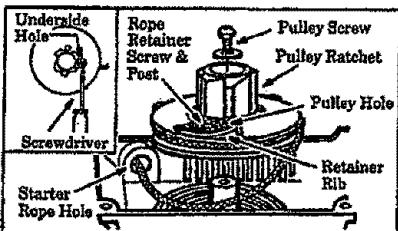

Figure 39
- Remove the pulley screw in the center of the pulley. Figure 39.
- Remove the Rope Retainer Screw and remove the old rope. Figure 39.
- Feed the rope through the round starter rope hole in the fan housing. Figure 39.
- Guide the rope inside the pulley, then up through the pulley hole (on the Pulley Ratchet side). Figure 39. It might be necessary to insert a small screwdriver through the underside hole to push the rope through the Pulley Hole. Figure 39 (Inset).
- Wrap the rope counterclockwise around the pulley ratchet and tuck loose end back under the rope leaving a 1 inch tail between the retainer rib and screw post. Figure 39. Pull rope tightly.